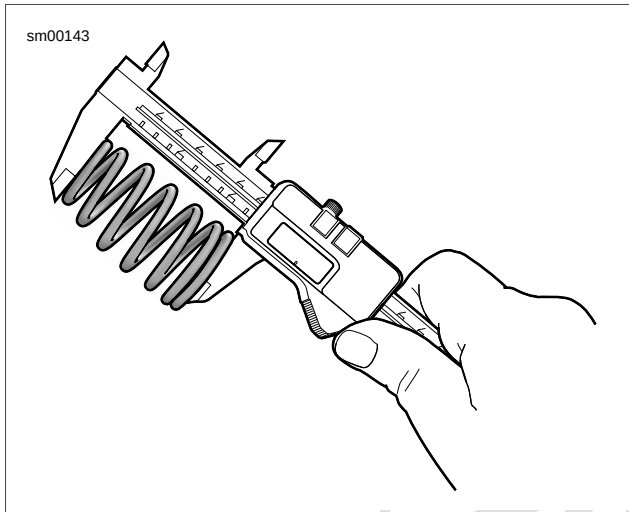

Figure 3-55. Checking Spring Free Length
2. See Figure 3-55. Check free length and compression force of each spring. Compare with 3.1 SPECIFICATIONS. If spring length is shorter than specification or if spring compression force is below specification, replace spring.